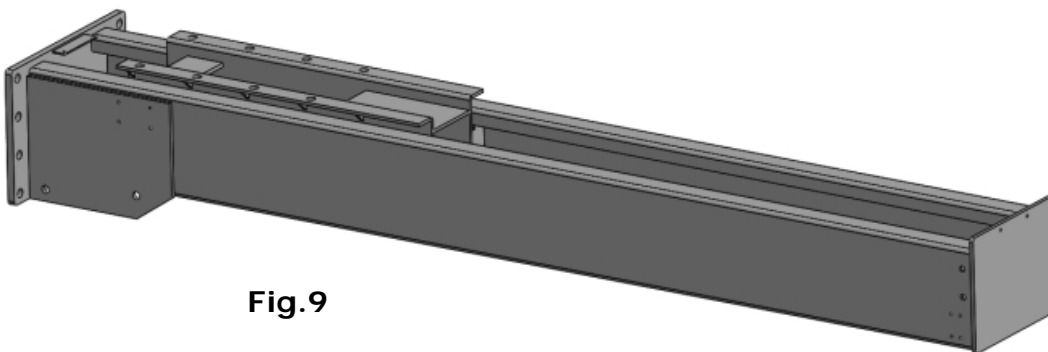

Fig.9
1.Lay the column flat to the ground.(See Fig.9)